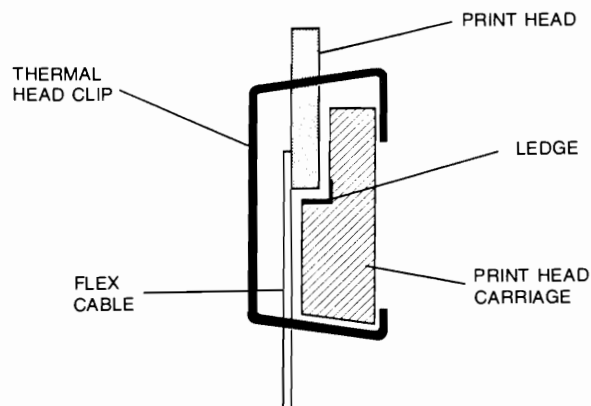

Figure 7-13D. Ledge Inside Print Head Carriage
4. Pull the print head up until you can see some of the flex cable through the square hole in the front of the print head carriage. Then push the print head down until it rests on the ledge which exists on the inside of the print head carriage. (See figure 7-13D.)